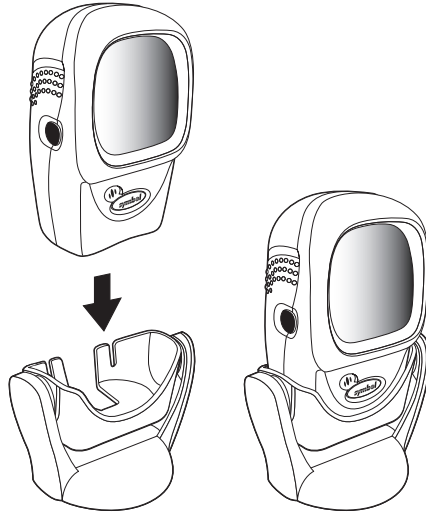
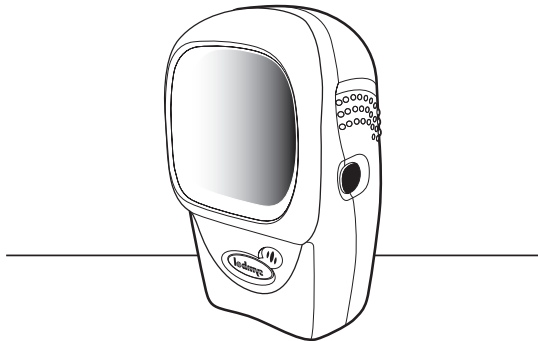

Figure 2-3. Scanner in the Stand
Figure 2-4. Scanner Standing Alone
2. Insert the scanner in the optional hands-free stand by placing the front of the scanner into the stand’s “cradle” (see Figure 2-3) or place the scanner on a flat surface (see Figure 2-4).